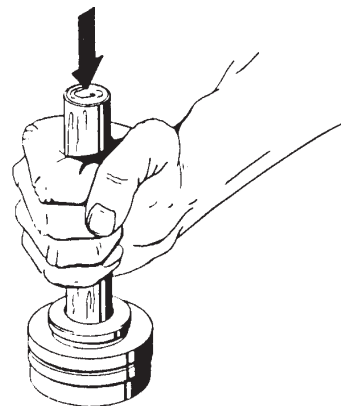

Figure 4-2
- If the seal seat (#12.5) must be reused, use a wooden dowel sized to fit through the hole in the seal cup to tap it out.(refer to figure 4-2)